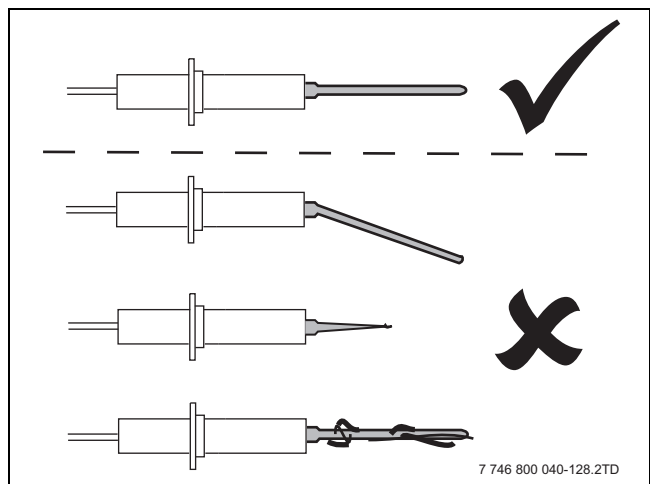
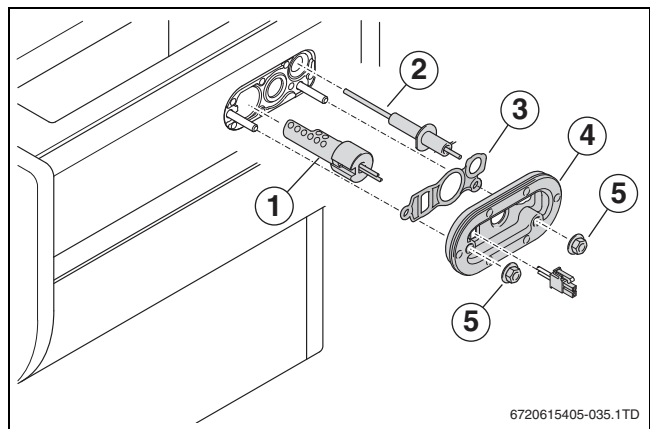

Fig. 88 Checking the ionization electrode
Fig. 89 Replacing the ignition unit
- The rubber seal (→ fig. 89, [3]) and the cover plate with seal (→ fig. 89, [4]) need to be replaced every 4 years.
- Check the individual components of the ignition unit (→ fig. 89) for wear or contamination (→ fig. 88).